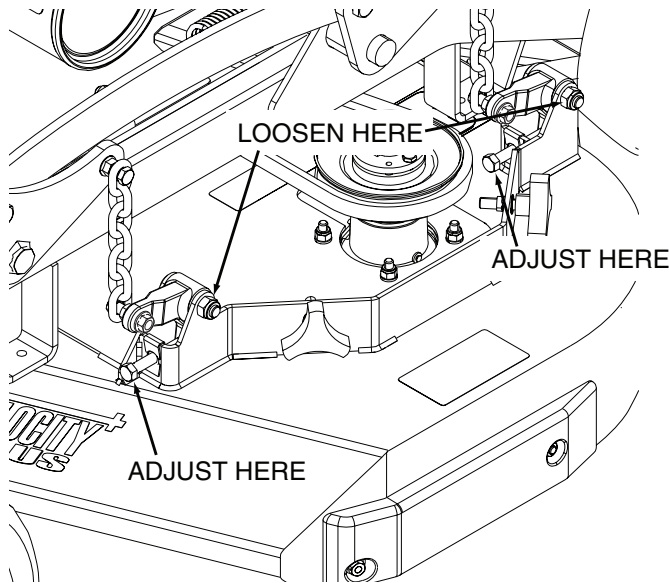

Figure 6-3. Cutter Deck Level Adjustment
1. If the cutter deck is lower on one side, loosen the elastic stop nuts securing the deck level links on the front and rear of the lower side. See Figure 6-3.
2. Turn the adjustment bolts on the front and rear deck level links clockwise until the cutter deck is level between both sides. See Figure 6-3.
3. Tighten the two (2) elastic stop nuts to secure the cutter deck in the proper position.